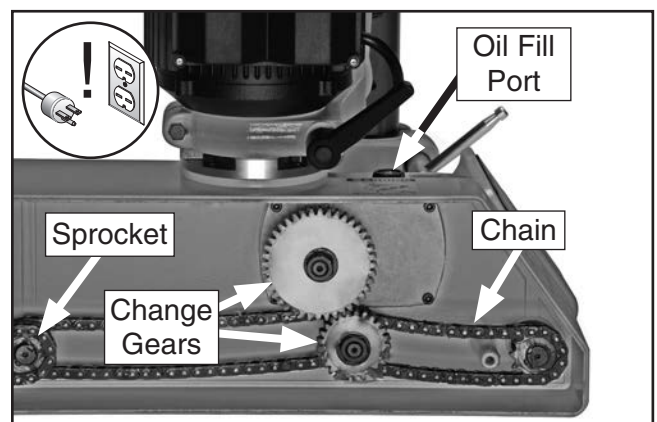

Figure 19. Lubrication locations.
Note: See **Figure 19 on Page 21** for oil fill port location.
- After the first month or 200 hours of use, change the gearbox oil with 5.1 fluid ounces of automotive-grade 80-90W gear oil. To drain the unit, remove the fill plug labeled "OIL" (see **Figure 19**) and invert the power feeder. For the remaining life of power feeder, change the oil every 6 months or 1000 hours of use.
- To prevent rust and binding, brush the sprockets, chain, and change gears (see **Figure 19**) with a light film of automotive-grade multi-purpose grease.